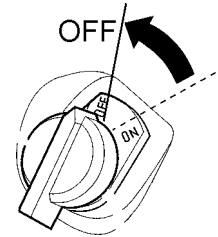

Figure 18. Engine ON/OFF Switch (OFF)
- Place the **engine ON/OFF switch** (Figure 18) in the **"OFF"** position.